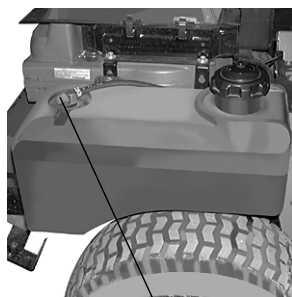

Figure. 4 Fuel Shutoff Valve
7. **Fuel Shutoff Valve:** (See Figure 4.) Located on top of the fuel tank. When turned in a clockwise direction until it stops, it will shut off the flow of fuel to the engine. When turned in a counterclockwise direction it will open and allow fuel to flow to the engine. Close this valve if you are not going to run the mower for a period of 30 minutes or more to prevent flooding the engine.